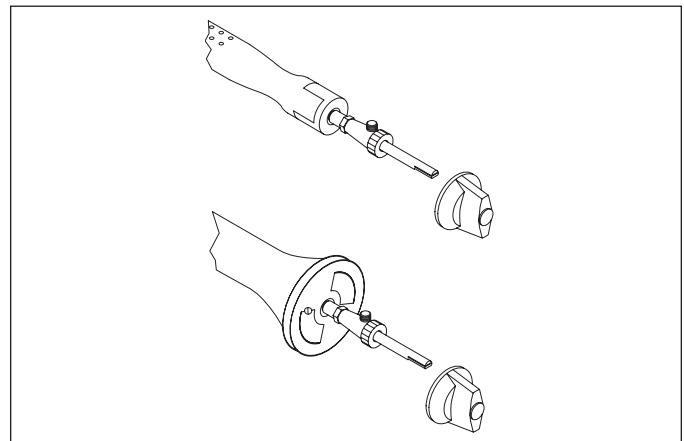

Fig. 2-11
4. Replace the venturis and make sure the bell shaped or cylindrical end is located over the valve orifices. See Fig. 2-11